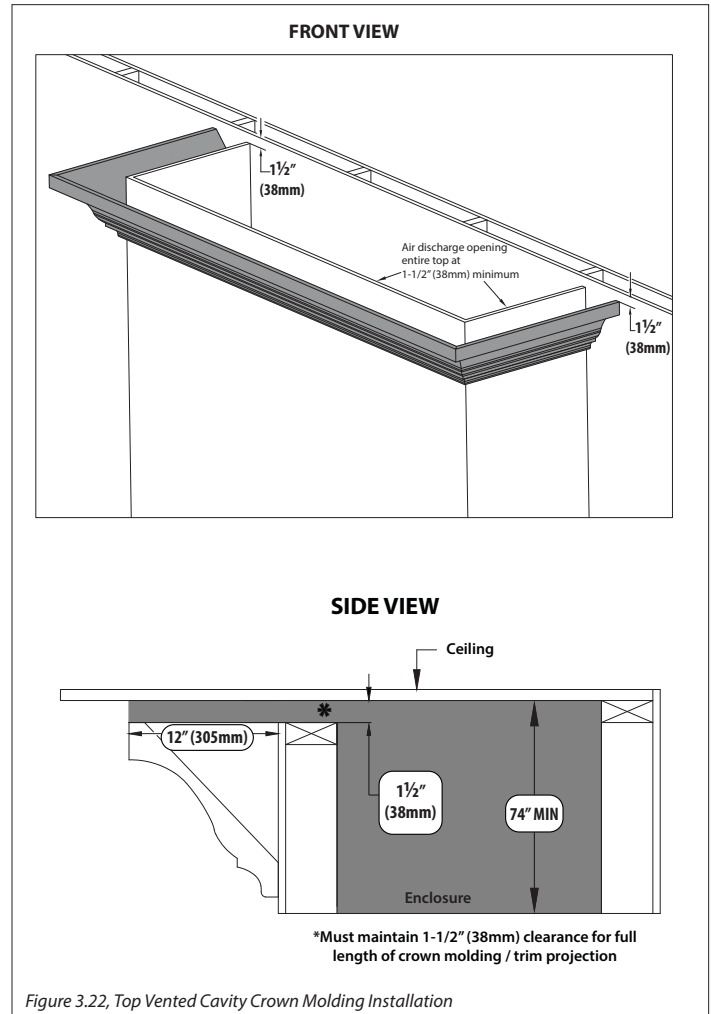

Figure 3.22, Top Vented Cavity Crown Molding Installation
- Figure 3.22 shows the installation of crown molding or similar trim work that goes up to the edge of the air discharge opening. This molding or trim cannot decrease the minimum opening requirement.